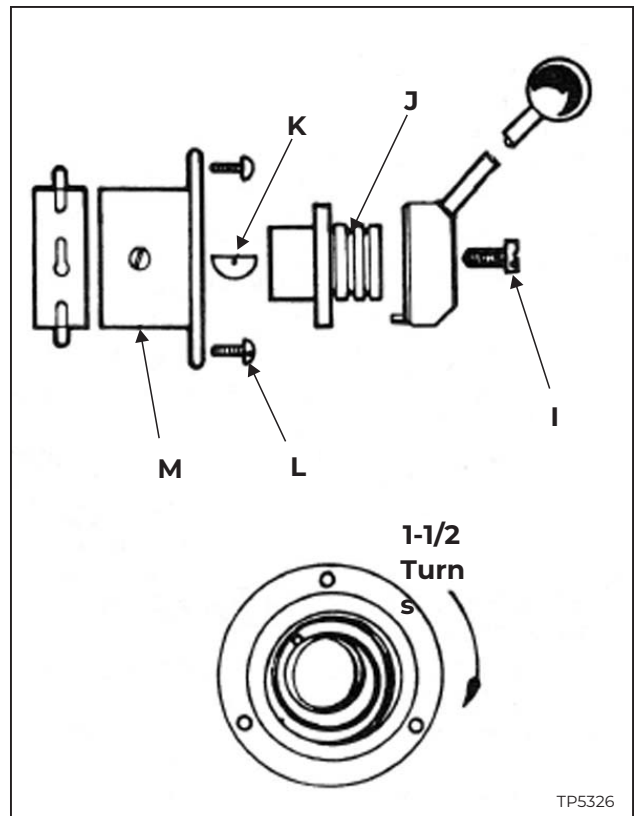

Figure 3.7 - Balance Spring Replacement
2. remove screw "I", hub "J", and key "K", Figure 3.7.